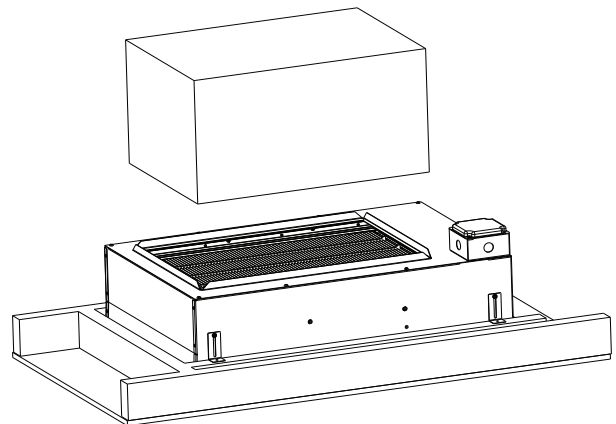

Fig. 9 – Install Return Air Ductwork
13. Install return air ductwork to the top of the RGAPA unit and seal the opening (Fig. 9).